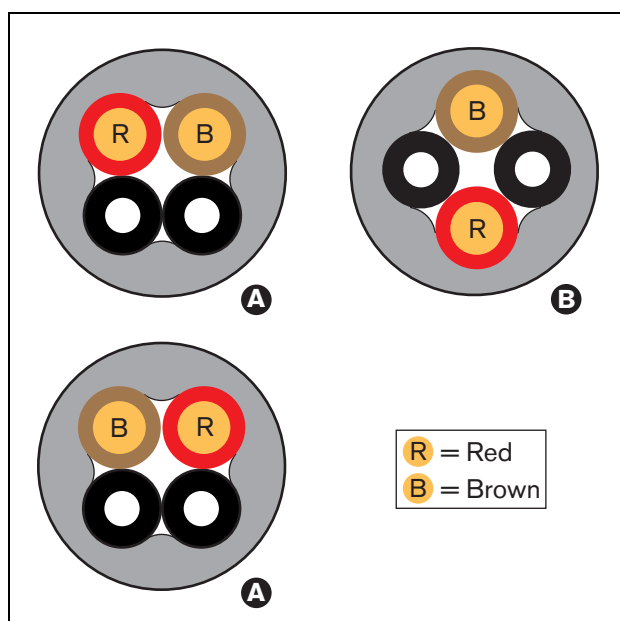

figure 30.5: Cable types
- Type A cables in which the plastic optical fibers are located next to each other (see figure 30.5, which shows both cable ends).
- Type B cables in which the plastic optical fibers are located opposite to each other (see figure 30.5, both cable ends are identical).